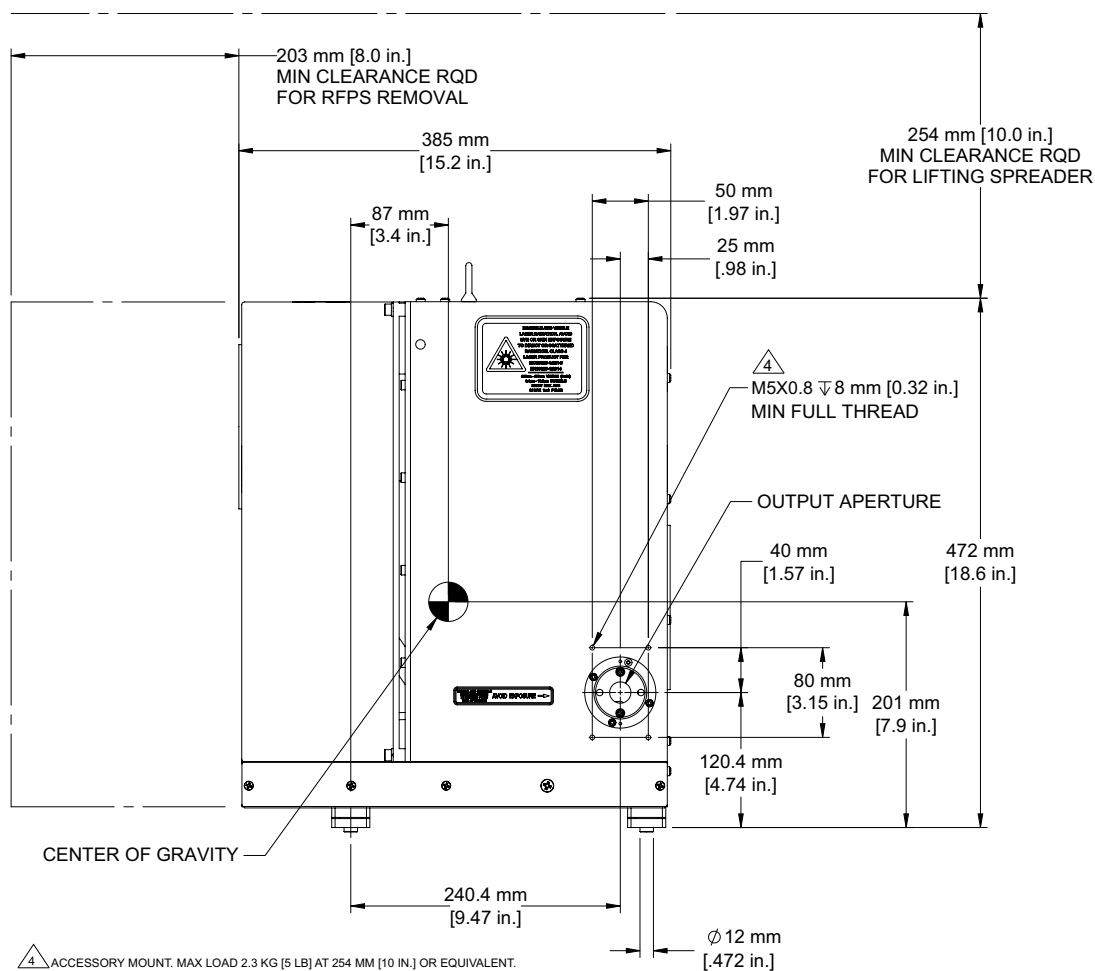

Figure 4-27. J-1000 Series Output End View
- The customer must provide a continuation of optical purge through the added components using a separate purge line (see Figure 4-27).